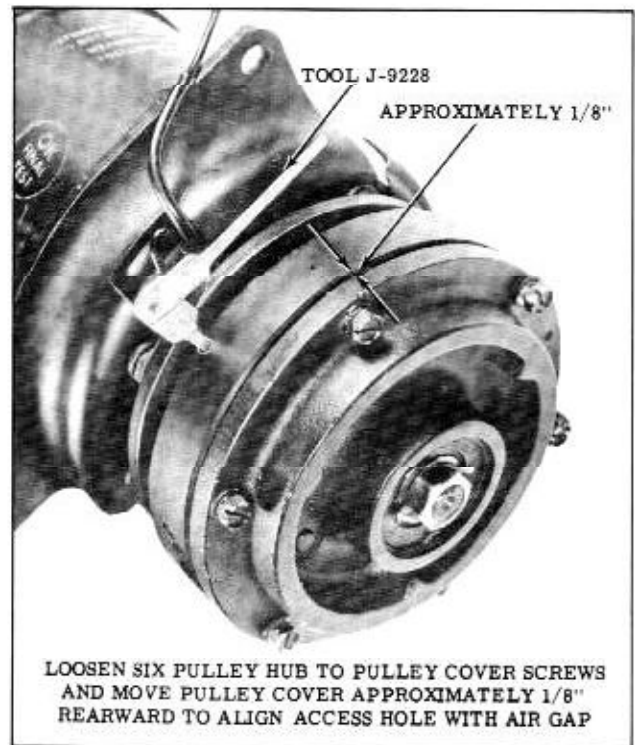
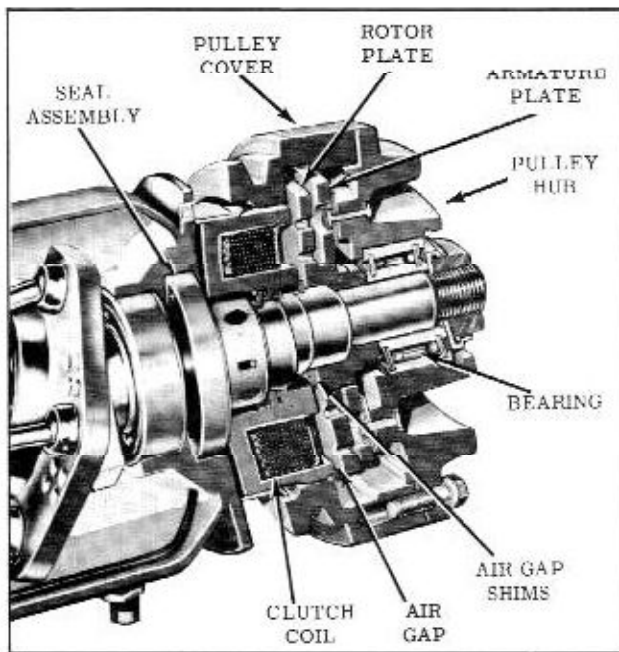

Fig. 14-22 Checking Clutch Air Gap
Fig. 14-23 Compressor Clutch
4. Insert the flat feeler gauges (Tool J-9228) through the hole in pulley cover. The air gap is correct when the .022" gauge will enter air gap and when the .037" gauge will not enter air gap. If the air gap is not within these specifications, it will be necessary to remove the rotor plate and add or subtract shims as necessary. (Fig. 14-23) Seven shims are available (.010", .012", .015", .018", .020", .022" and .025"). With proper selection of these shims, .002" variation in air gap can be obtained. (Fig. 14-22)
Clutch Pulley Hub and Armature Plate Assembly Removal (Fig. 14-23)